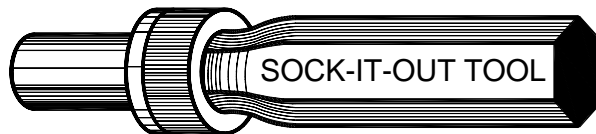

Figure 6–33. Sock-It-Out tool for removing Allen-head screws and bolts with damaged recesses.
- Often a *tap disintegrator (TD)*, also called a *bolt disintegrator*, *metal disintegrator*, or *spark eroder*, is the best way to remove a frozen or broken fastener. This device works on the same principle as Electrical Discharge Machining (EDM) and removes the fastener quickly and without damage to the work. It works for all fastener metals. Some TDs are stationary while others may be brought to the work. When using TDs, the workpiece must be immersed in water or oil. Many machine shops have these machines and offer this service. For high-value workpieces, this is an excellent approach and presents minimum risk to the part.
- On socket head cap screws whose hexes have stripped out, use a *Sock-It-Out* tool, Figure 6–33, or make one from a larger Allen wrench using a bench grinder. Hammer the sock-it-out tool into the recess. If the Allen wrench itself strips out, grind down the damaged end to expose fresh hex area.